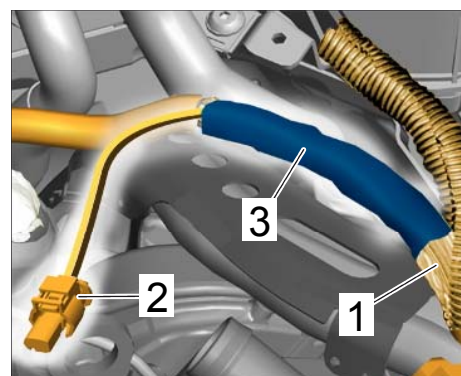

Figure 19
- 5.23 Bind the main wire harness $\Rightarrow$ *Figure 19 -item 1-* and the connector wires $\Rightarrow$ *Figure 19 -item 2-* with fabric tape $\Rightarrow$ *Figure 19 -item 3-*.